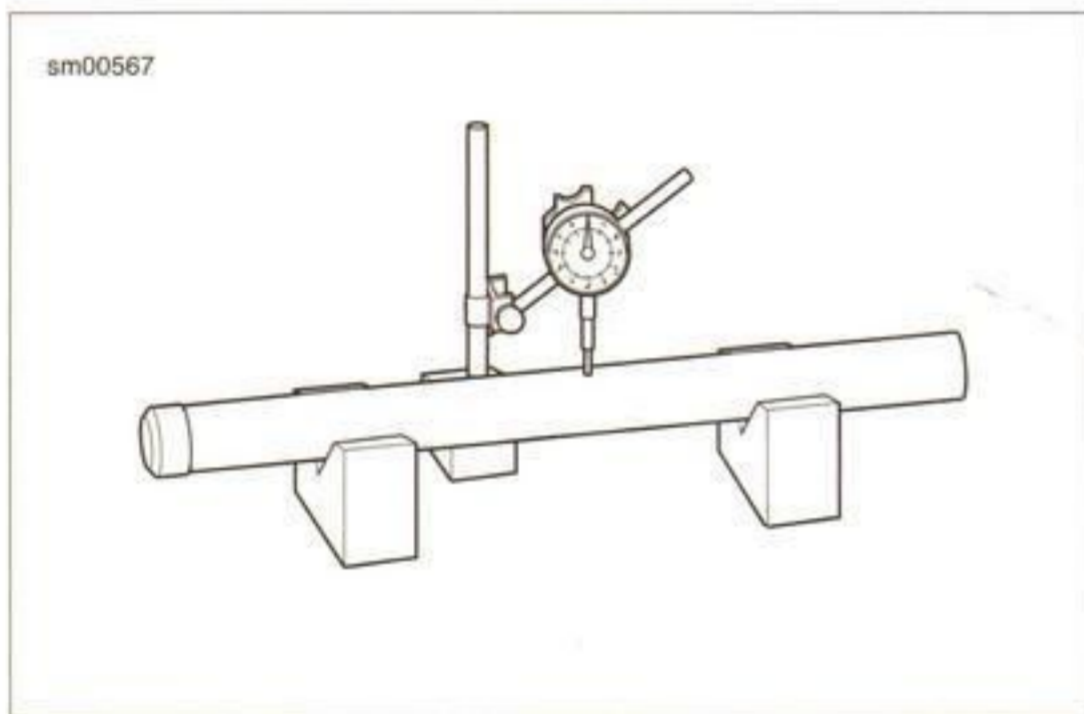

Figure 2-90. Slider Fork Runout
5. See Figure 2-90. Measure slider tube runout. Replace slider tube if the runout exceeds the service wear limit. Refer to Table 2-18.